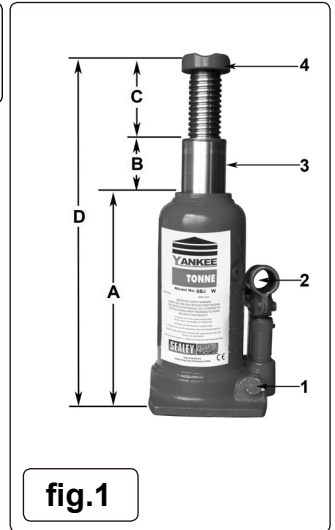

fig.1
In the table below the dimensions are cross-referenced to fig.1.
- 4.1. Before using the jack, purge the hydraulic system, in order to eliminate any air that may have accumulated during transit, referring to fig.1 as follows:
- a) Fit jack handle over release valve (1) and turn anti-clockwise to open valve.
- b) Insert jack handle into the handle sleeve (2) and pump several times to ensure full internal lubrication and to bleed air from the system.
- c) Fit jack handle back over the release valve (1) and turn clockwise to close.